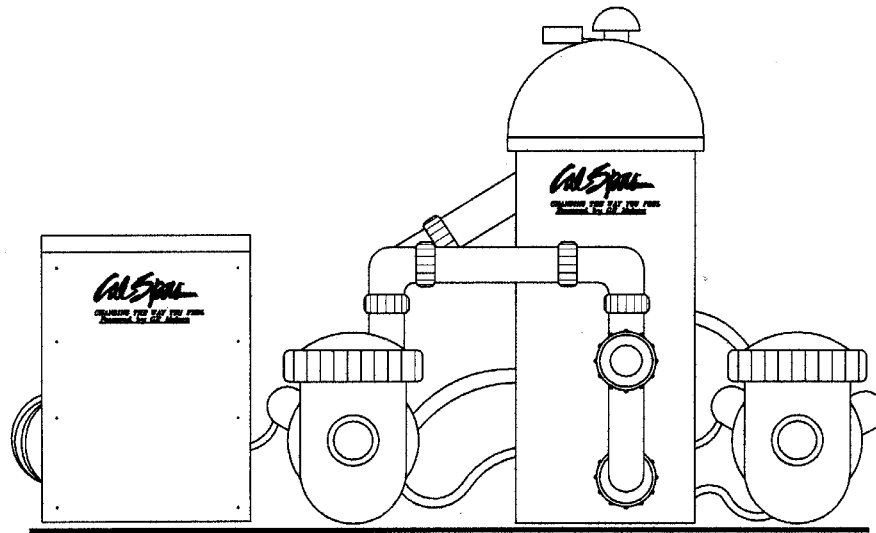

Figure 2. Equipment pack
7. The equipment pack and heater are delivered separately. See Figures 2, 3, and 4 for sizes.